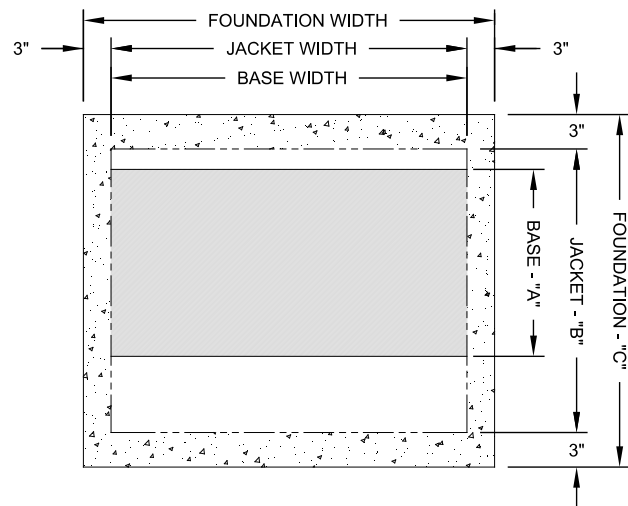

Figure 1.7: Foundation Layout
- Provide a good, level foundation for the boiler with a minimum of three inches surrounding both the width and depth of the jacket given in Figure 1.7 and Table 1.1. The flooring and structural support system must be suitable for the operating weight of the boiler and any connected piping.